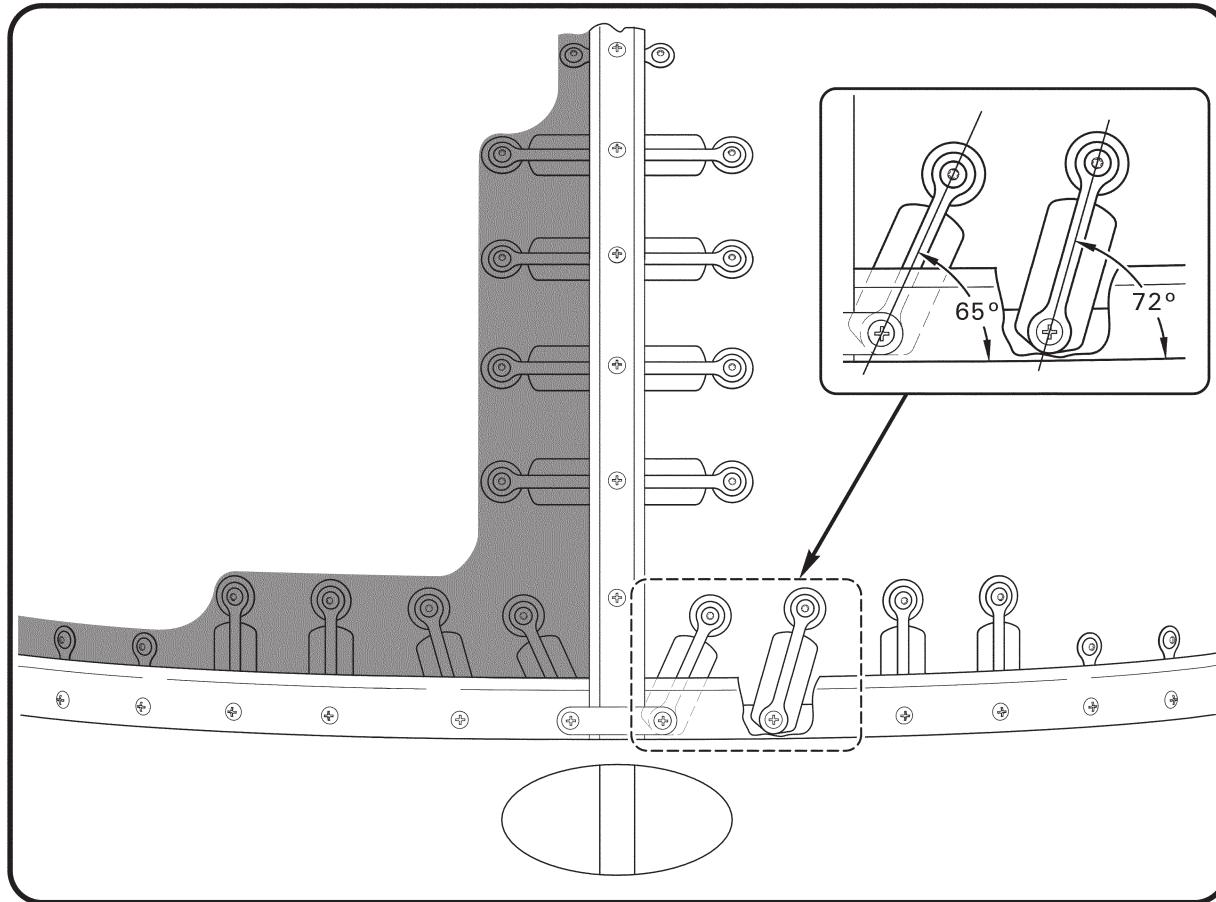

FIGURE 25-2 G367 TIES AND STRAPS INSTALLATION
5. Refer to Figure 25-2. Align G367 ties and straps perpendicular to retainers within 2°, except at locations shown. Install B410-3 stiffener and special torque screws per § 23-33. Match drill #40 pilot holes through windshield and install clecos.